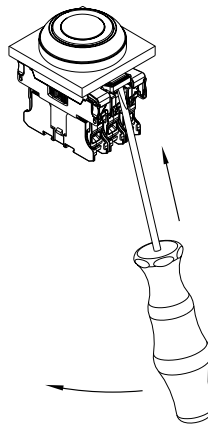

Fig. 10
1. Disassembly of the contact carrier from the mounting flange (see Fig. 10): Insert the screwdriver in the latch of the mounting flange. Slightly move the screwdriver in the direction of the contact element to press the latch outwards. In this way, the contact carrier is released from the mounting flange. Then repeat this process on the opposite side.